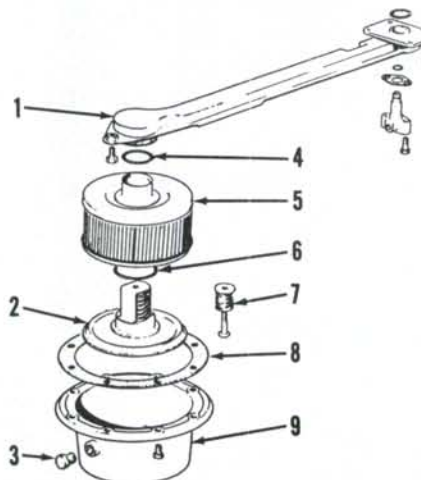

Fig. 236—Exploded view of hydraulic pump suction filter assembly used on 1190, 1194, 1290 and 1294 models.
306. These models have a metal screen (2—Fig. 236) equipped with a magnet (7) and a renewable paper filter (5) on suction side of pump. Filter assembly is located in housing (9) which is bolted to bottom of transmission housing.